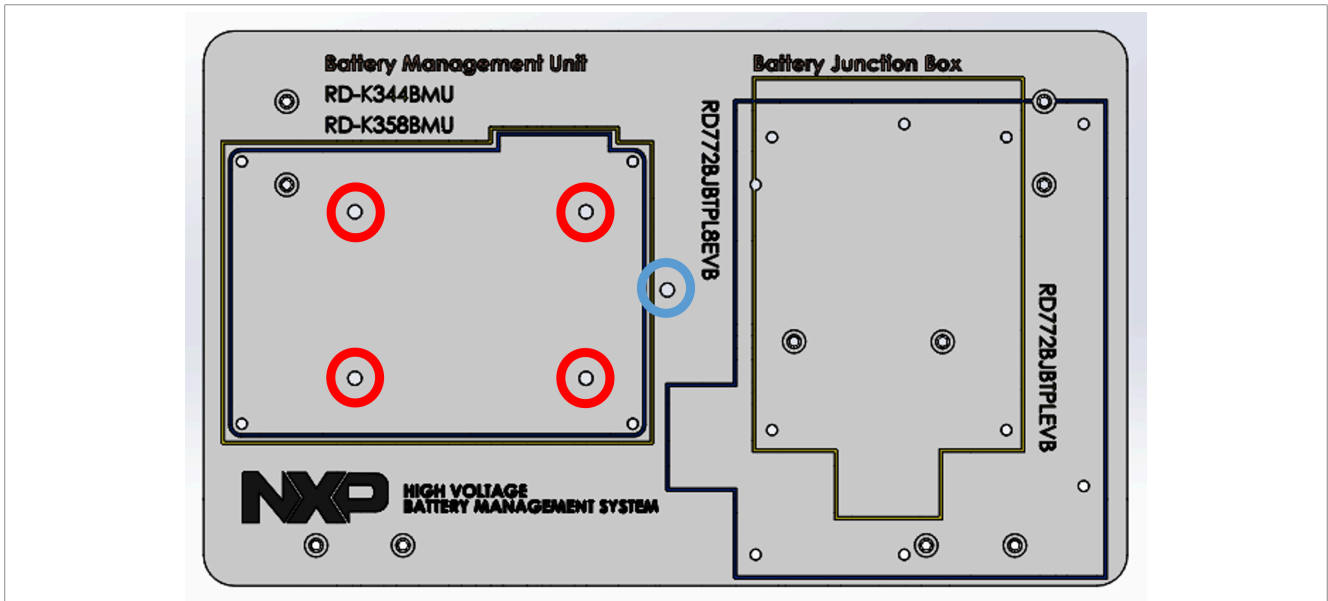
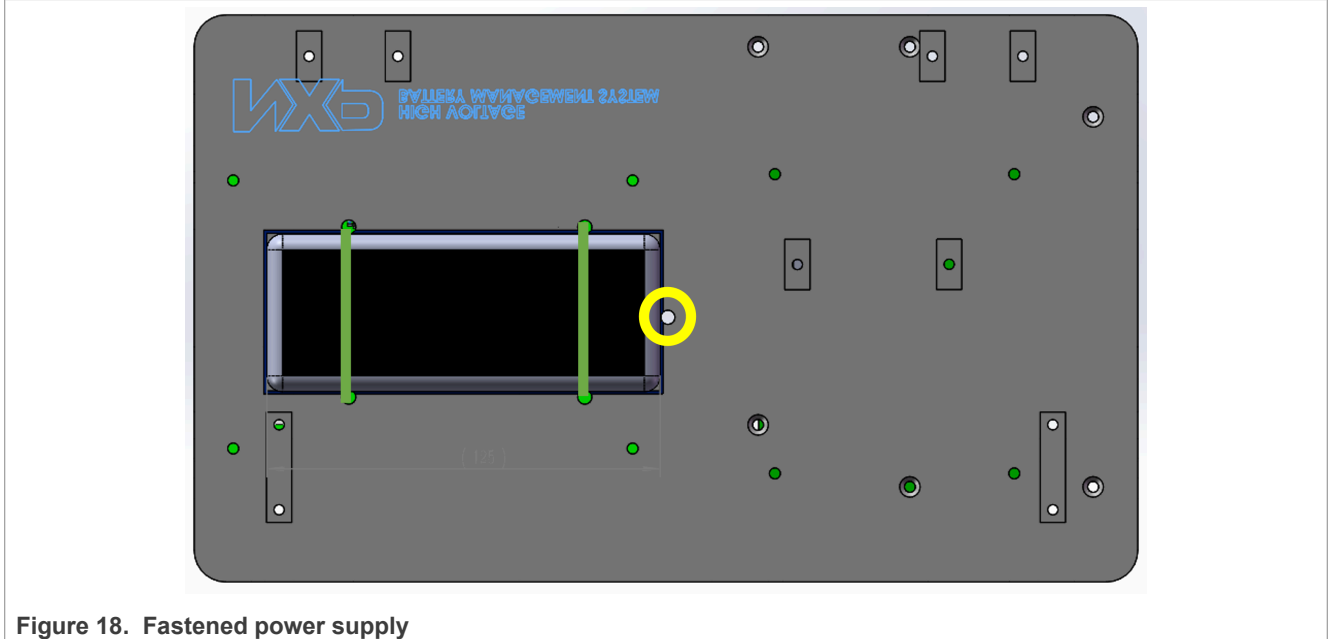

Figure 17. Power supply mounting holes
Figure 18. Fastened power supply
1. Use the two nylon cable ties (600-77772) to fasten one of the power supplies to the top plate according to the red marks on Figure 17 and green marks on Figure 18.
2. It is possible to secure the power supply position by placing one screw (280-78013) and nut (280-78016) according to the blue mark on Figure 17 and yellow mark on Figure 18.